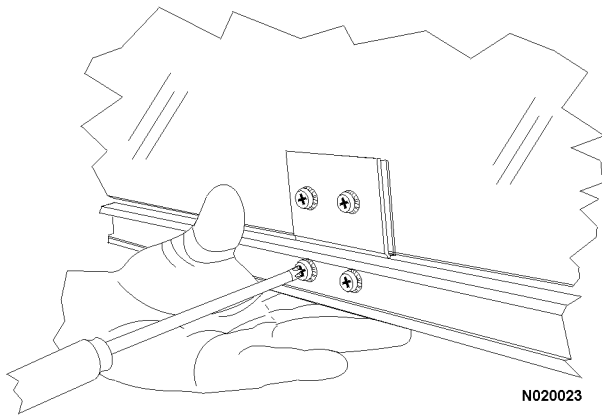

FIGURE 2-8.
7. Remove 2 screws (Figure 2-8) holding the roller track to the bottom of the door glass.